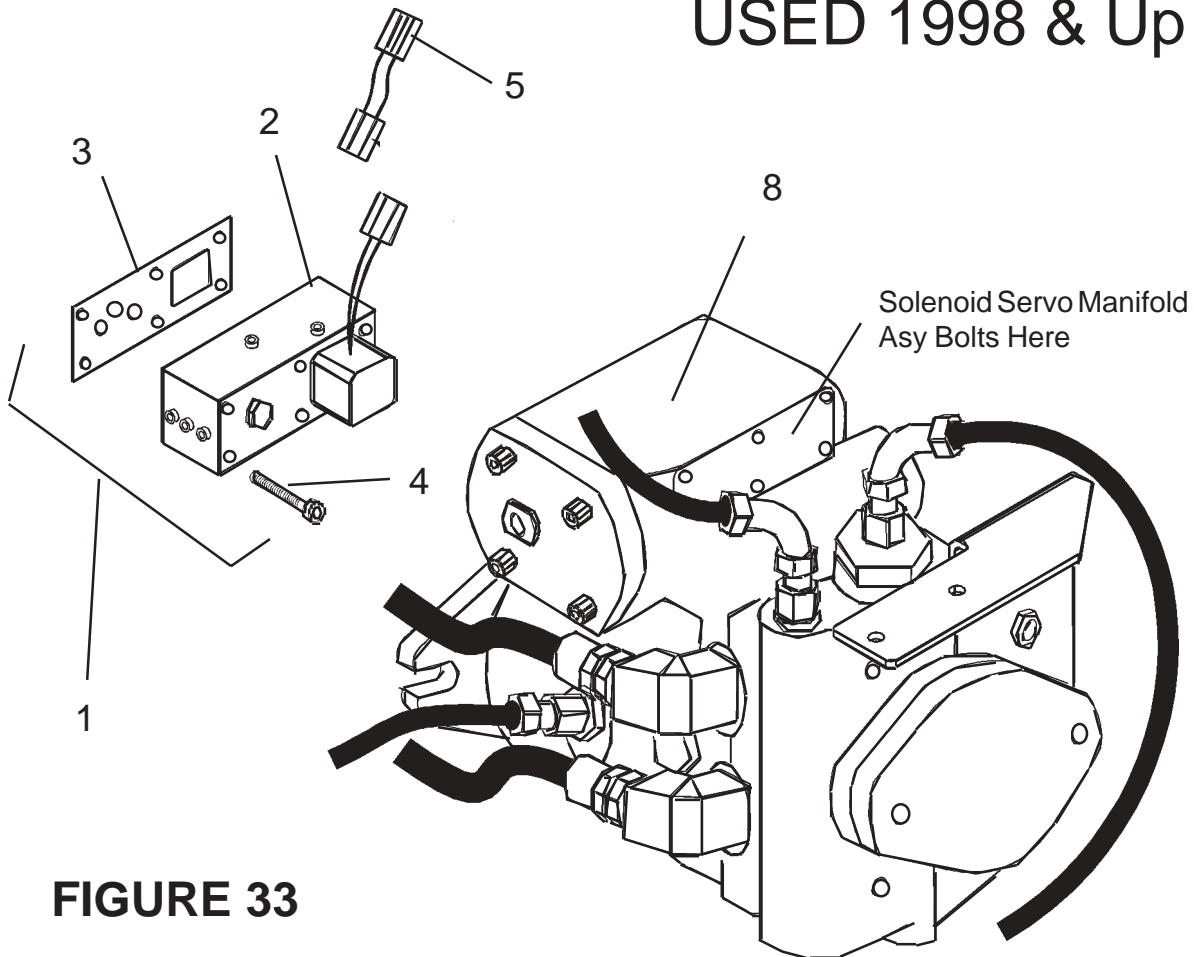

**FIGURE 32**
(See Figure 32)
3. **Valve Spool Spring.** Install Spring Retainer (item 5), Spring (item 6) and second Spring Retainer (item 5) onto Valve Spool (item 7). Compress Spring by pushing on outer Spring Retainer and install E-Ring (item 4) onto Valve Spool.
4. **Valve Spool.** Install Valve Spool assembled into Control Housing (item 1) making sure that the metering notches (See Figure 32) are facing outward and can be seen through the Metering Ports, Check the notches at this time, if the notches cannot be seen it will not work.
5. **Feedback Link and Bell Crank.** Bell Crank (item 12) should have Head Pin (item 17) already installed. Position Bell Crank in Housing, Slide Feedback Link (item 9) into position between Clevis on Valve Spool aligning holes, install Retaining Dowel Pin (item 10) and E-Ring (item 11).
6. **Input Shaft.** Install New O-Ring (item 15) onto Input Shaft (item 14), Hold Bell Crank in position with Feedback Link Slot and align Splined Hole of Bell Crank with Input Shaft Cavity. Install Input Shaft into Control Housing and Bell Crank. Apply Locktite # 242 or equivalent to Set Screw (item 13) and install it to retain Input Shaft. Tighten Set Screw till it bottoms out against Input Shaft and then back it out 1/4 turn.
7. **Wiper Seal.** Install Wiper Seal (item 16) on Input Shaft and seat into Control Housing.
8. **Valve Spool Plug.** Install New O-Ring (item 3) onto Valve Spool Plug (item 2) and install Plug, Tighten Plug till there is no play in Valve Spool with Input Shaft held stationary. Lock in place with Set Screw (item 8), Torque Set Screw to 17 to 25 in. lbs. (2 to 3 nm)
**NOTE: SOLENOID SERVO CONTROL MANIFOLD ASSEMBLY. (Used 1998 & Up See Figure 39),** The Manual Servo Control Assembly Shown in Figure 32 was used through 1997, at which time it was replaced by a Solenoid Servo Manifold, There are not really any repairs to be done to this later version, other than replacing the complete manifold assembly or the Solenoid. Also many of the earlier units were upgraded to this later Manifold by using up-grade Kit # 02970206 See Pump Conversion Kit Insert Sheet # 02970224 (See Figure 33 on next pages).